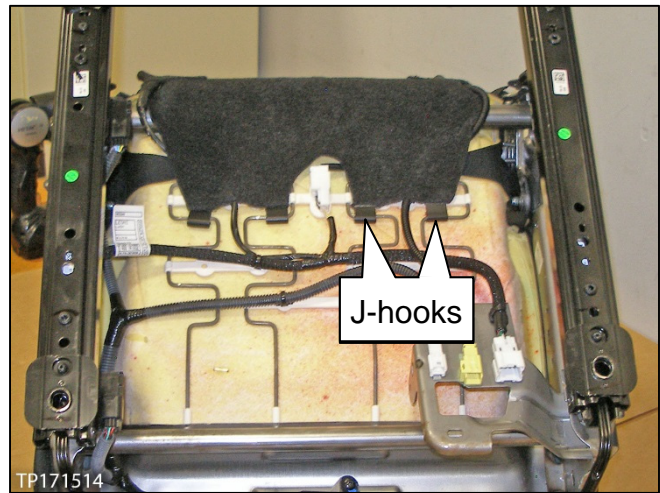

Figure 14
15. Unfasten the two (2) J-hooks shown in Figure 14.